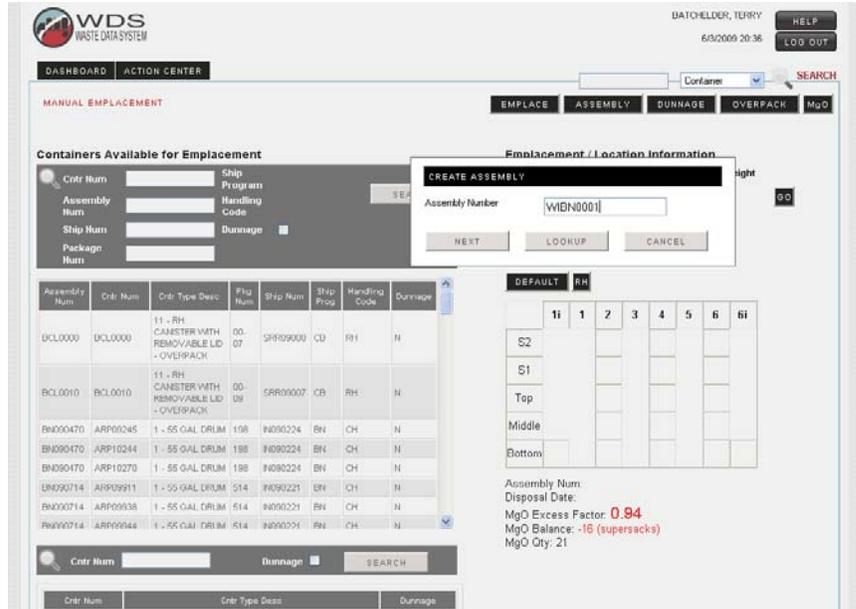

Figure 5-7 - Assembly Screen
- C. Highlight a Overpack Container on left side of screen and click on **Add Container** button as shown in Figure 5-7.